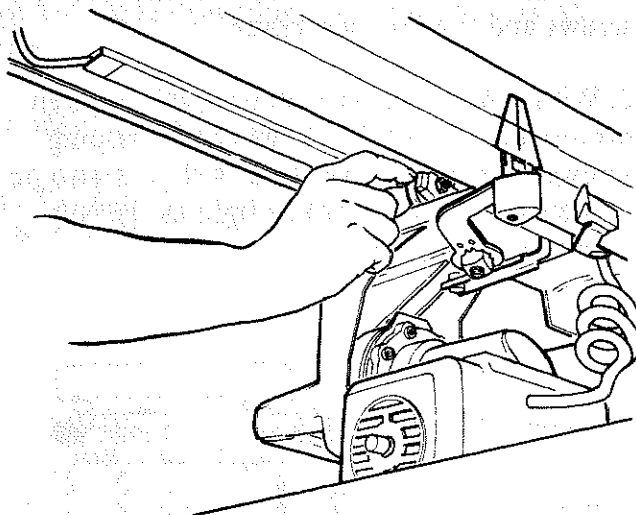

Fig. 126 - Front Carriage Bearings
3. Hold the *front carriage bearing* with your fingers as tight as possible and pull *carriage* forward at the same time. If you can prevent the *bearing* from turning an adjustment is required. (Figure 126)